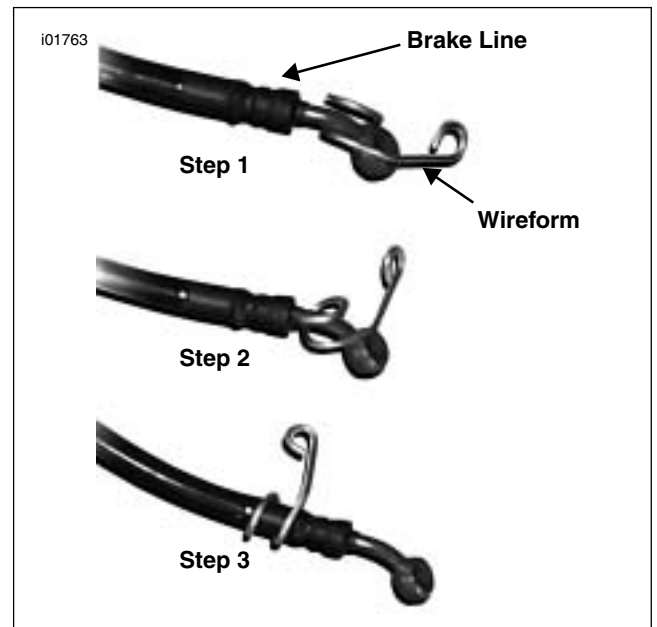

Figure 4. Wireform Installation
2. See Figures 4 and 6. Install the wireform onto the **new** brake line as shown.